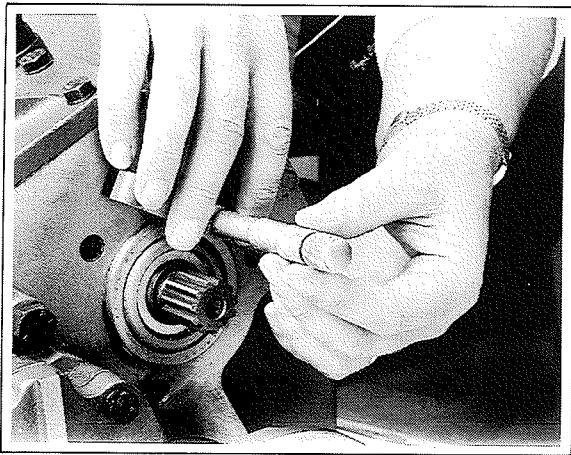

Fig. 16
1. Press the bearing outer cup firmly into position and measure between the face of the gearcase and the top of the bearing outer as shown in Fig. 16.